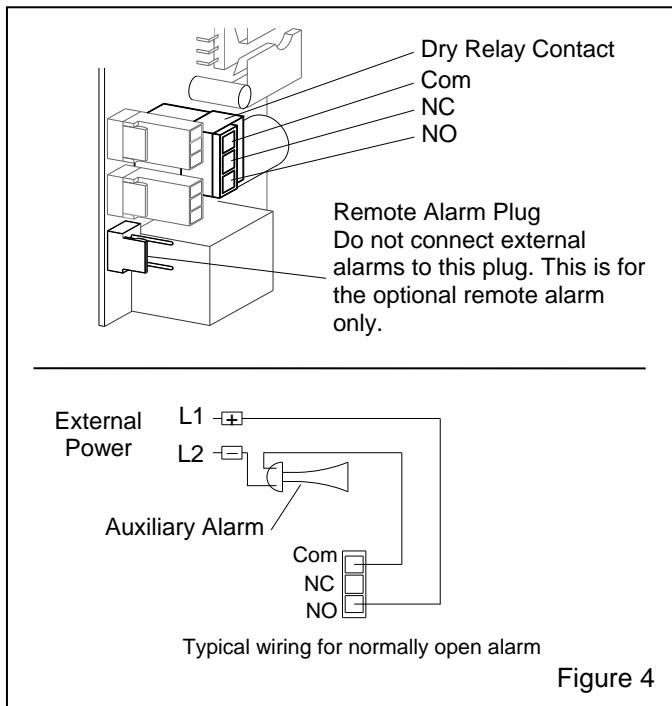

Figure 4
2.5 Connecting an External Alarm and Shutdown Device – Figure 4
2.5.1 A dry relay contact, rated at 5 amperes, is mounted on the circuit board as shown in. Figure 4. An